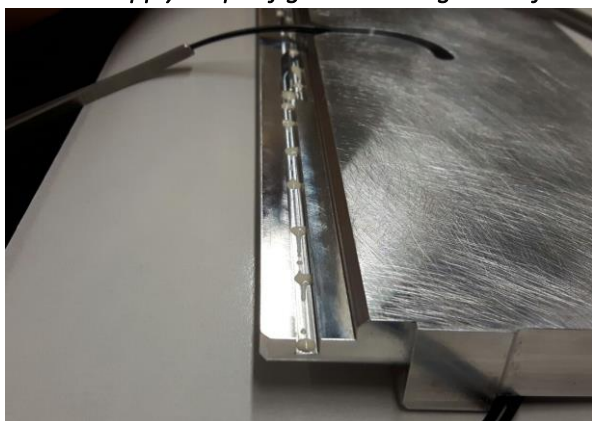

Figure 19 Glue in groove for light bar
3.2.3.3 Apply drops of glue into the grooves for the light bars as shown in "Figure 19".